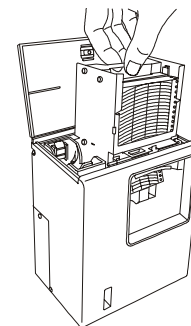

Fig. 2
2. Remove 6 screws fixing the top cover with a screw driver and remove the top cover. (Fig. 2)
2. Pull the cartridge up after opening the top lid. The lid can be opened by turning the knob counterclockwise. See Fig. 2.